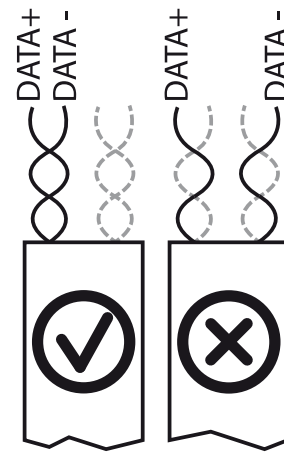

Figure 26: RS485 bus: Assignment of twisted-pair wires
- Observe the wire pairing when connecting DATA+ and DATA- (see Figure 26)